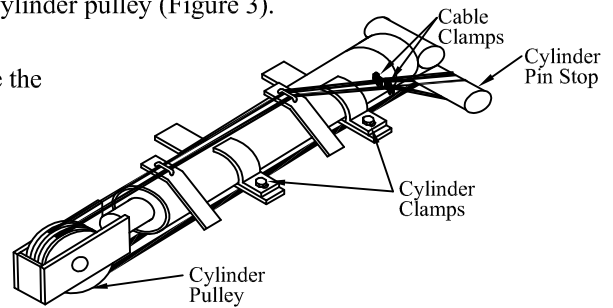

Figure 3: Cylinder, lift cable, and clamp positions.
- Step 6. Loosen and remove the cable clamps, paying close attention to the location of the cable clamps. Pull the cables out from around the cylinder pin stop and the cylinder pulley (Figure 3). **OBSERVE THE WAY THE CABLES ARE THREADED.**
- Step 7. Remove the clamps that hold the cylinder in place and remove the cylinder (Figure 3).